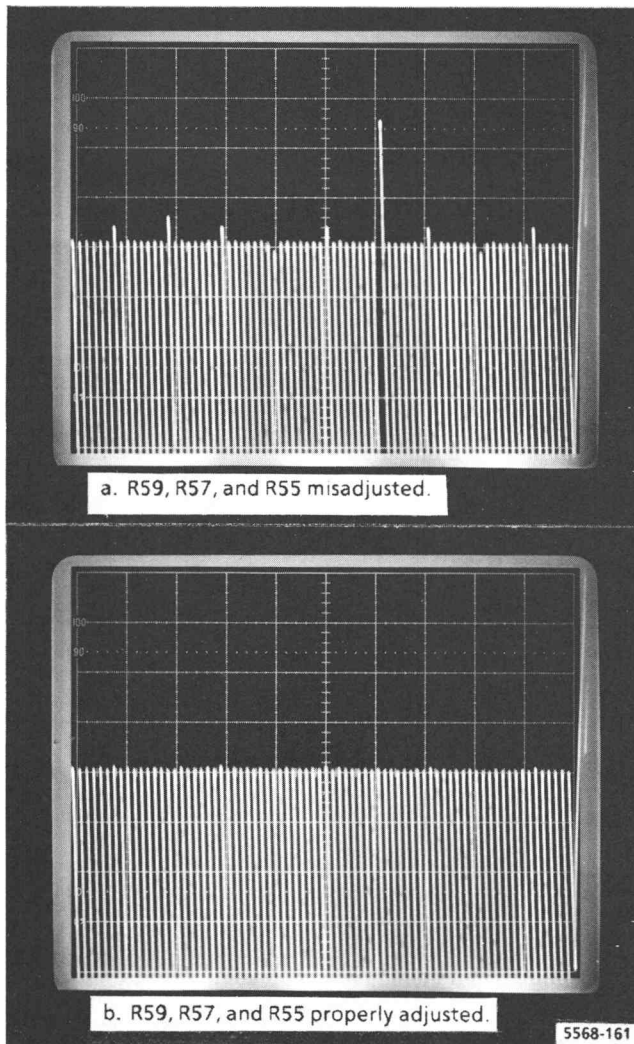

Fig. 4-38. AGC current adjustment (LSBs).
- e. **ADJUST** L28 and L38 for the best transient response on the leading edge of the waveform on TP27. Refer to Fig. 8-9 for adjustment locations, and see Fig. 4-38 for typical waveforms.
- f. **ADJUST** R59, R58, R57, and R55 (in that order) so no LSBs (spikes) protrude from the top of the displayed field. See Fig. 4-38 for typical displays.